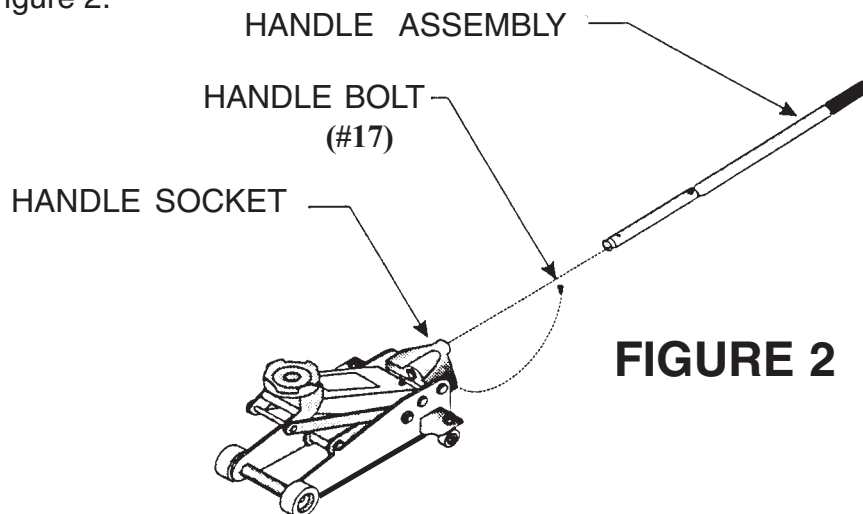

FIGURE 2
Step 6: Thread HANDLE BOLT into HANDLE SOCKET and tighten with 11/16" wrench as shown in Figure 2.